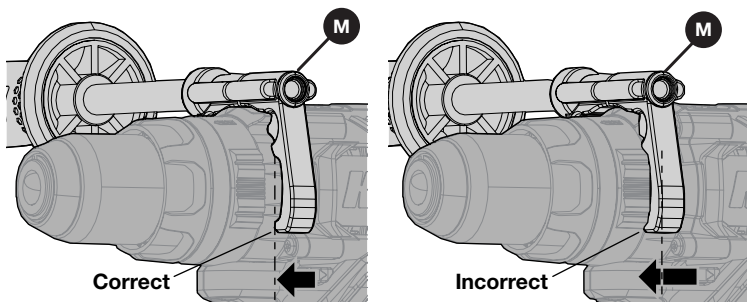

Figure 1
Note Figures 1 and 2 illustrate correct and incorrect installation of the Side Handle (M).